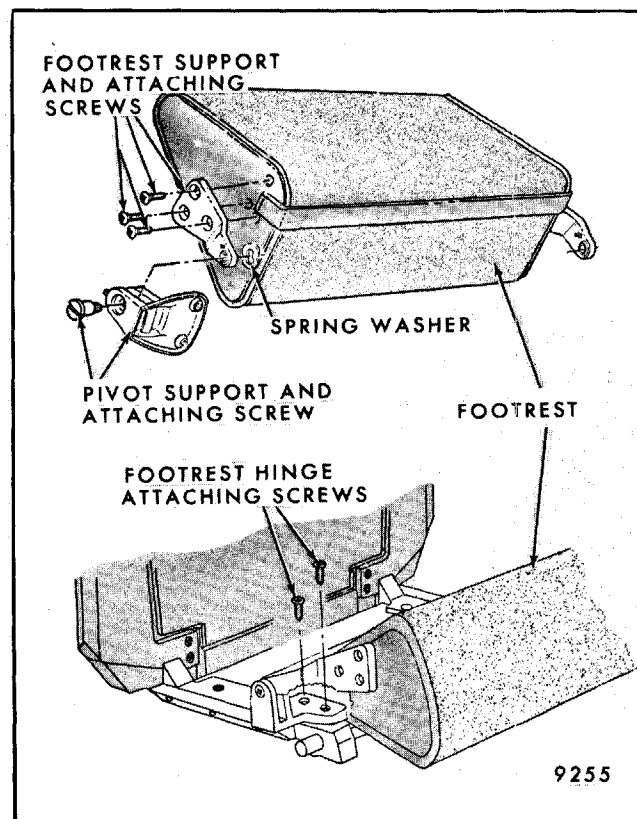

Fig. 9-71-Auxiliary Seat Footrest Assembly - Removal and Installation - Cadillac Limousine Styles
3. Remove footrest hinge attaching screws and remove footrest assembly (Fig. 9-71).